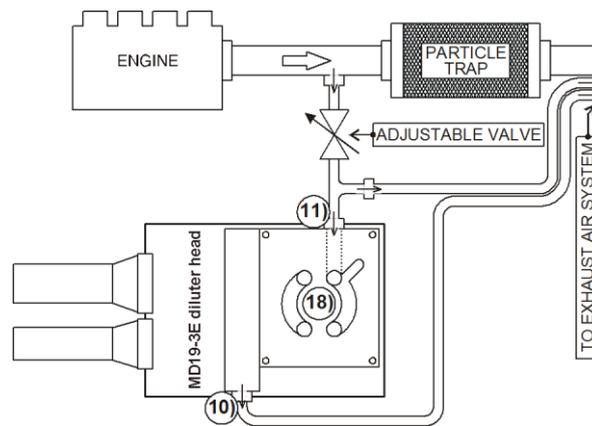

Fig. 5.7: measurement setup if raw gas pressure exceeds 300 mbar
You may protect your testo MD19-3E diluter head by introducing a valve and an opening between exhaust pipe and diluter head as shown in Fig. 5.7 to reduce the pressure. The valve has to be adjusted to an opening, where more than 2 l/min are flowing through the valve over the whole pressure range which will be applied to the diluter head inlet (11). Lead the excess raw gas to an exhaust air system.